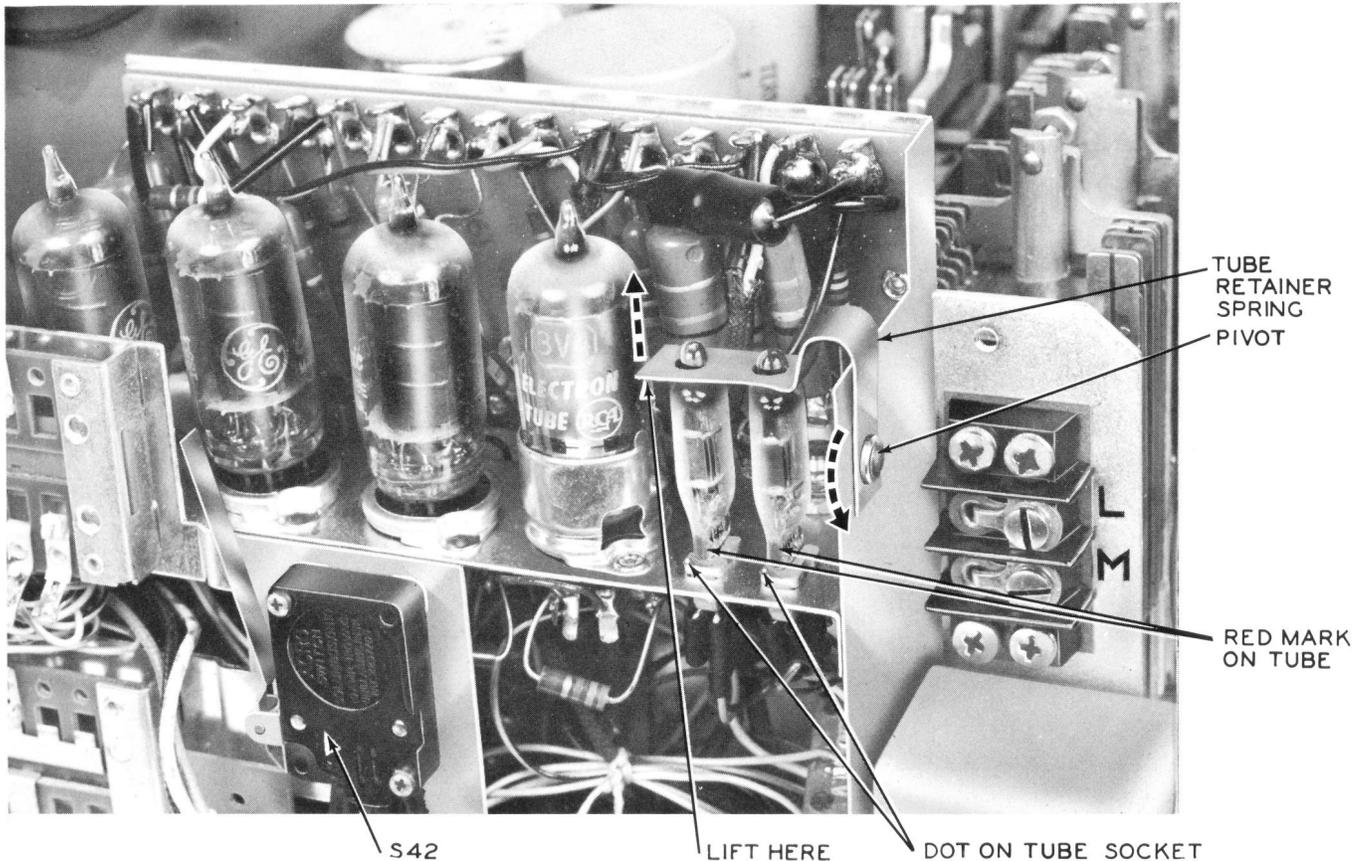

Fig. 2 — CK512AX Electron Tubes, Retainer
3.12 To remove and replace a CK512AX electron tube (see Fig. 2), the following steps should be followed: